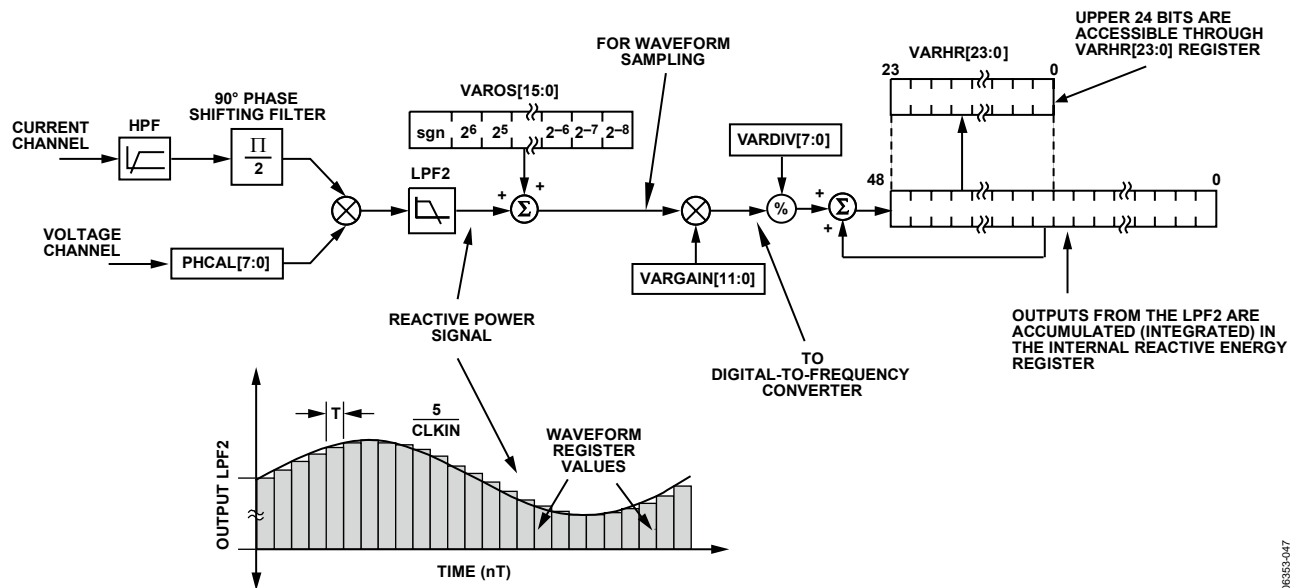

Figure 58.. Reactive Energy Calculation
The instantaneous reactive power signal $q(t)$ is generated by multiplying the voltage and current channels. In this case, the phase of the current channel is shifted by +90°. The dc component of the instantaneous reactive power signal is then extracted by a low-pass filter to obtain the reactive power information (see Figure 58).
Figure 58 shows the signal processing chain for the ADE7569 reactive power calculation. As explained in the Reactive Power Calculation for the ADE7569 section, the reactive power is calculated by applying a low-pass filter to the instantaneous reactive power signal. Note that when reading the waveform samples from the output of LPF2, the gain of the reactive energy can be adjusted by using the multiplier and by writing a twos complement, 12-bit word to the VAR gain register (VARGAIN[11:0]). Equation 25 shows how the gain adjustment is related to the contents of the watt gain register.
The ADE7569 also incorporates a reactive power offset register (VAROS[15:0]). This is a signed, twos complement, 16-bit register that can be used to remove offsets in the reactive power calculation (see Figure 58). An offset can exist in the reactive power calculation due to crosstalk between channels on the PCB or in the IC itself. The offset calibration allows the contents of the reactive power register to be maintained at 0 when no power is being consumed.
The discrete time sample period (T) for the accumulation register in the ADE7569 is $1.22 \mu\text{s}$ ($5/\text{MCLK}$). As well as calculating the energy, this integration removes any sinusoidal components that may be in the active power signal. Figure 58 shows this discrete time integration or accumulation. The reactive power signal in the waveform register is continuously added to the internal reactive energy register.
As shown in Figure 58, the reactive power signal is accumulated in an internal 49-bit signed register. The reactive power signal